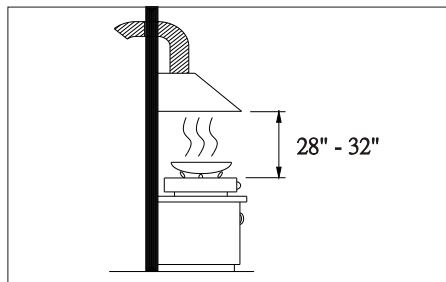

Fig.1 : Optimum Rangehood height
3. To get the best performance, the vertical clearance between the cook - top and the range hood should range from 28" to 32". (Fig.1)